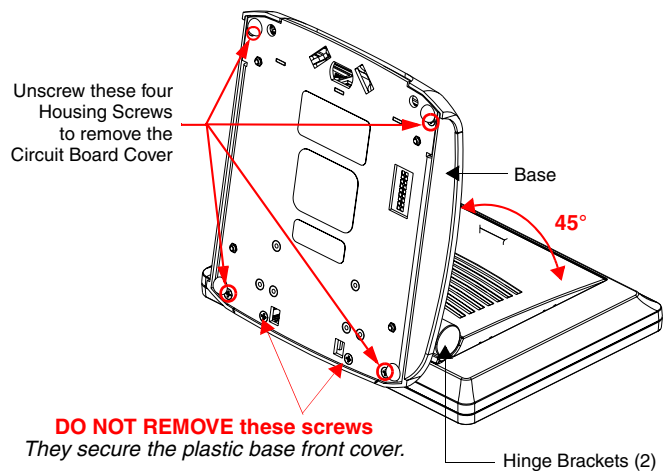

FIG. 6 Location of the attachment screws underneath an NXT panel base
1. Carefully detach all connectors from the rear of the touch panel and then gently place the touch panel LCD facedown onto a soft cloth to expose the under-side of the base (FIG. 6). This step helps prevent scratching of the LCD.
3. While holding the outer housing and base plate at a 45° angle (to prevent it from sliding), use a grounded Phillips-head screwdriver to remove the four Housing Screws (FIG. 6).
5. While holding the circuit board cover in place, turn the panel back over until the LCD lies facedown on a soft cloth and the under-side of the base is exposed (FIG. 6).
6. Insert and secure the four Housing Screws (using a grounded Phillips-head screwdriver) in their respective locations (FIG. 6).